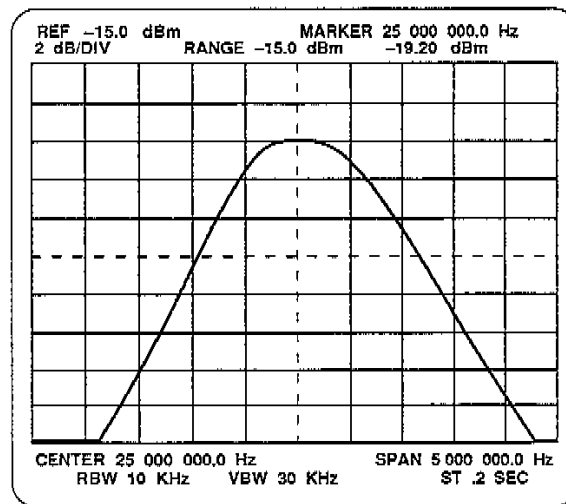

Figure 3-21. 25 MHz Bandpass properly aligned.
7. Adjust C80, C82, and C83 for a signal centered at 25 MHz with flat-top response; refer to Figure 3-21.